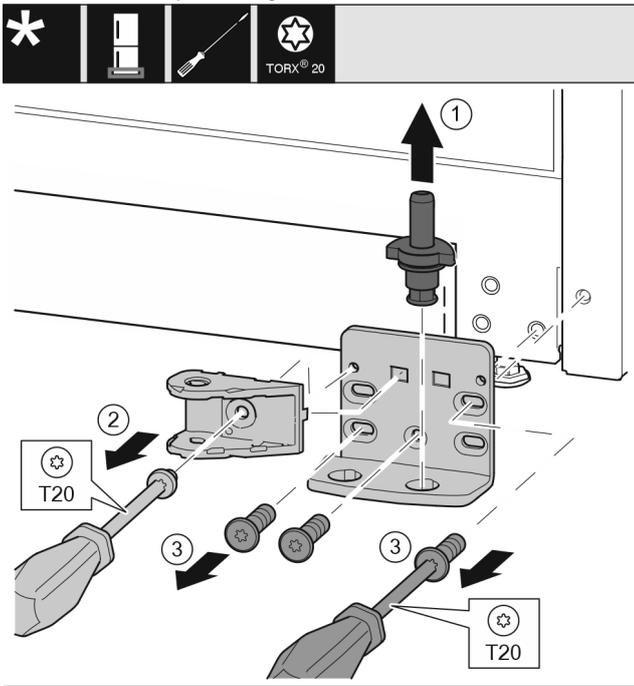

Fig. 45 *
- ▶ Pull the bearing bolt Fig. 45 (1) out upwards completely.*
- ▶ Use screwdriver to unscrew the screw Fig. 45 (2) and remove the closing damper connection.*
- ▶ Use screwdriver to unscrew the screws Fig. 45 (3) and remove the swap bearing block.*